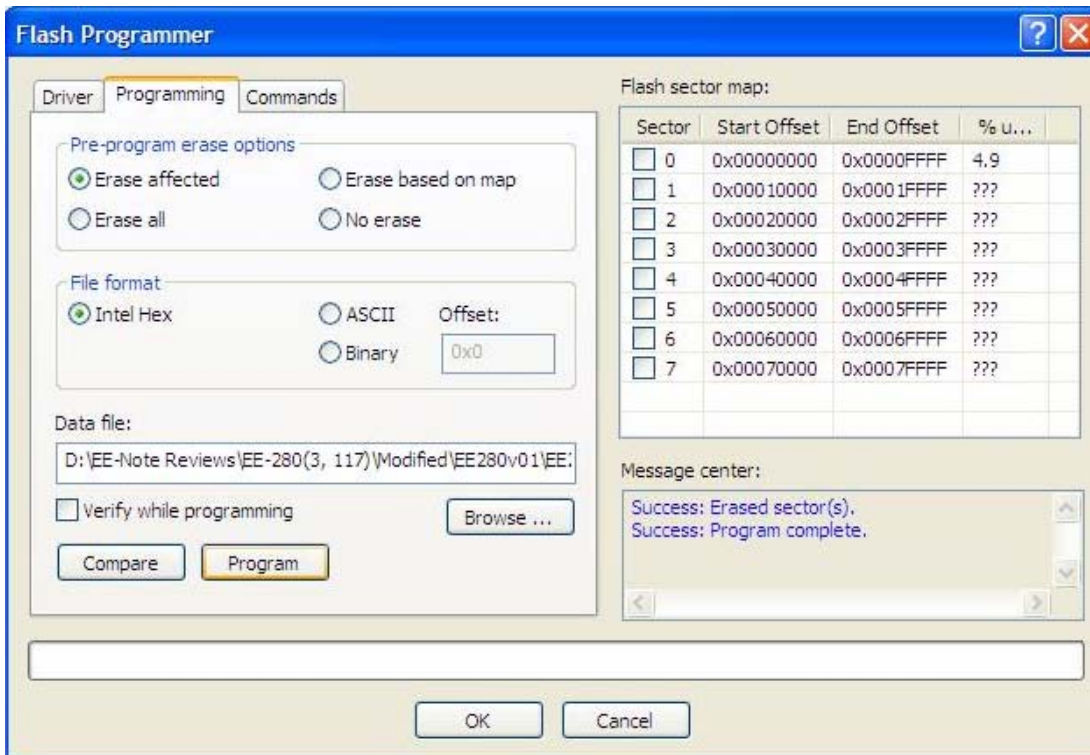

Figure 7. Flash Programmer – loading the loader file for user application
3. Click the Programming tab. Click the browse (...) button under Data File (Figure 7) and select the path for the generated user\_application.ldr file.